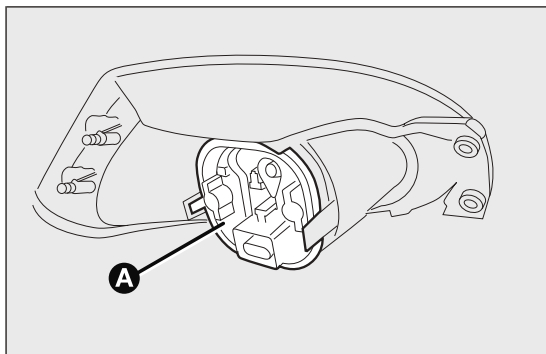

fig. 149
- disconnect the electrical connector and, adjusting the three retaining tabs, remove the protective cover A fig. 149. Then, replace the concerned bulb.